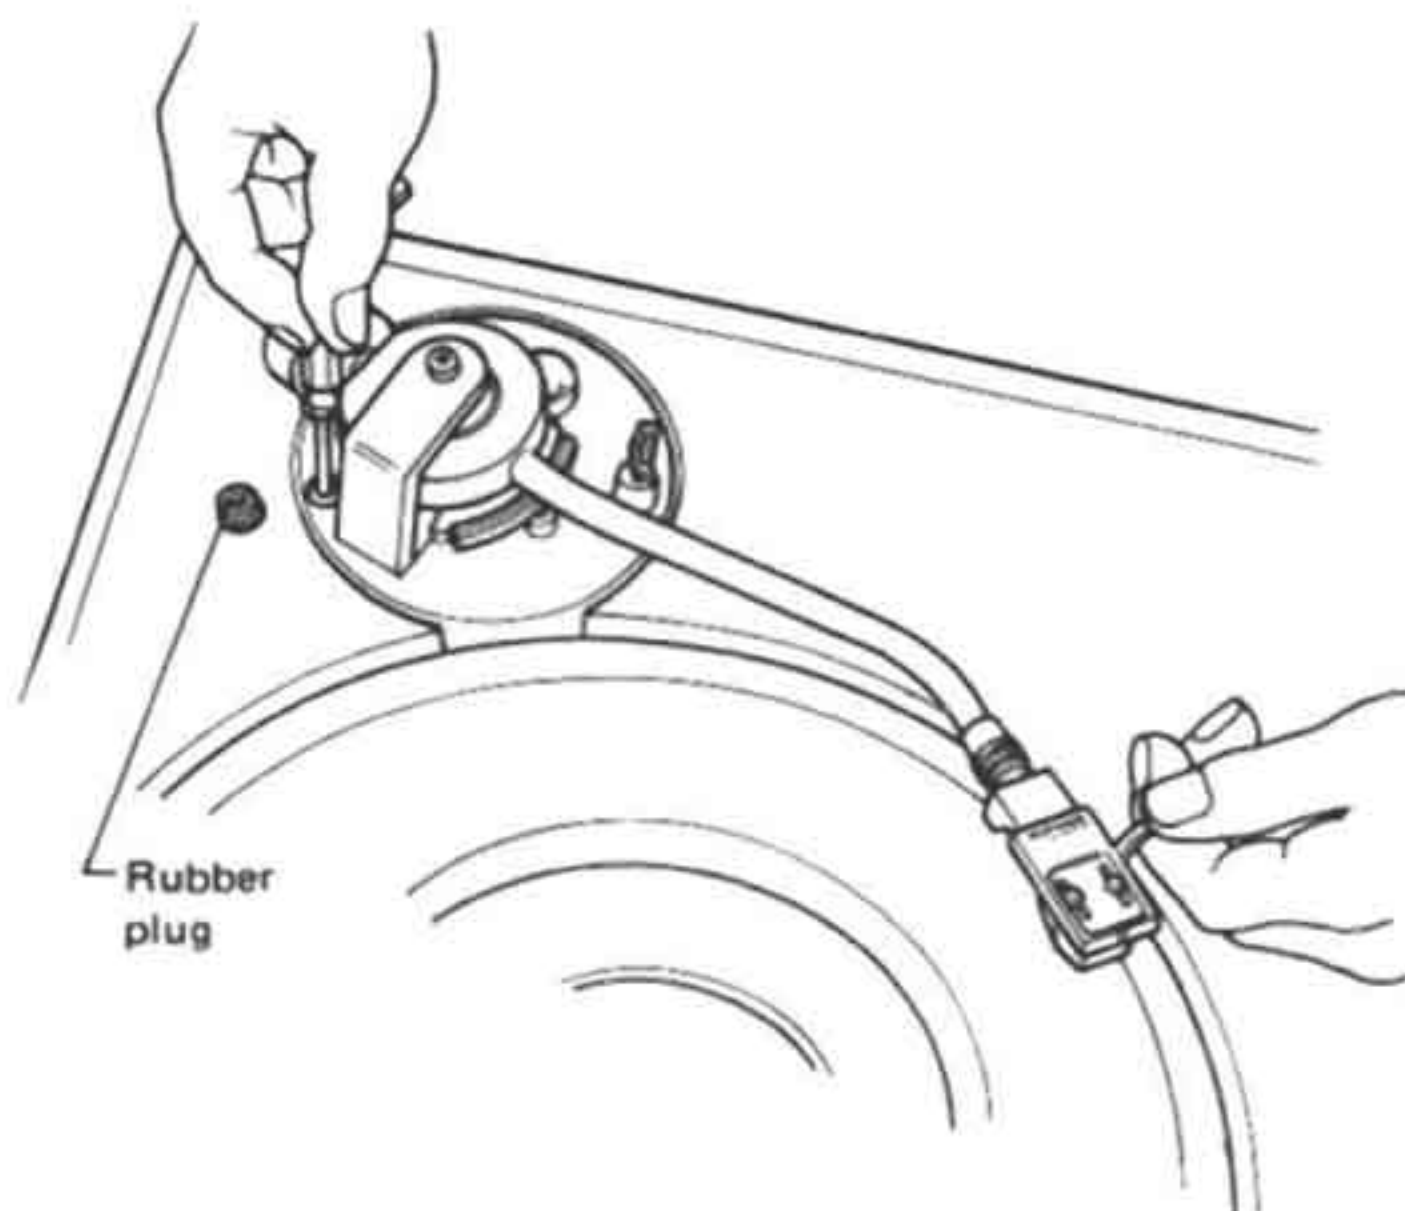

Fig. 19
3. Support the tonearm with one hand, remove the rubber plug and check the head of the adjustment screw from above the hole. If the head of the screw has shifted slightly from the hole, move the tonearm a little to the inside or outside (Fig. 19).